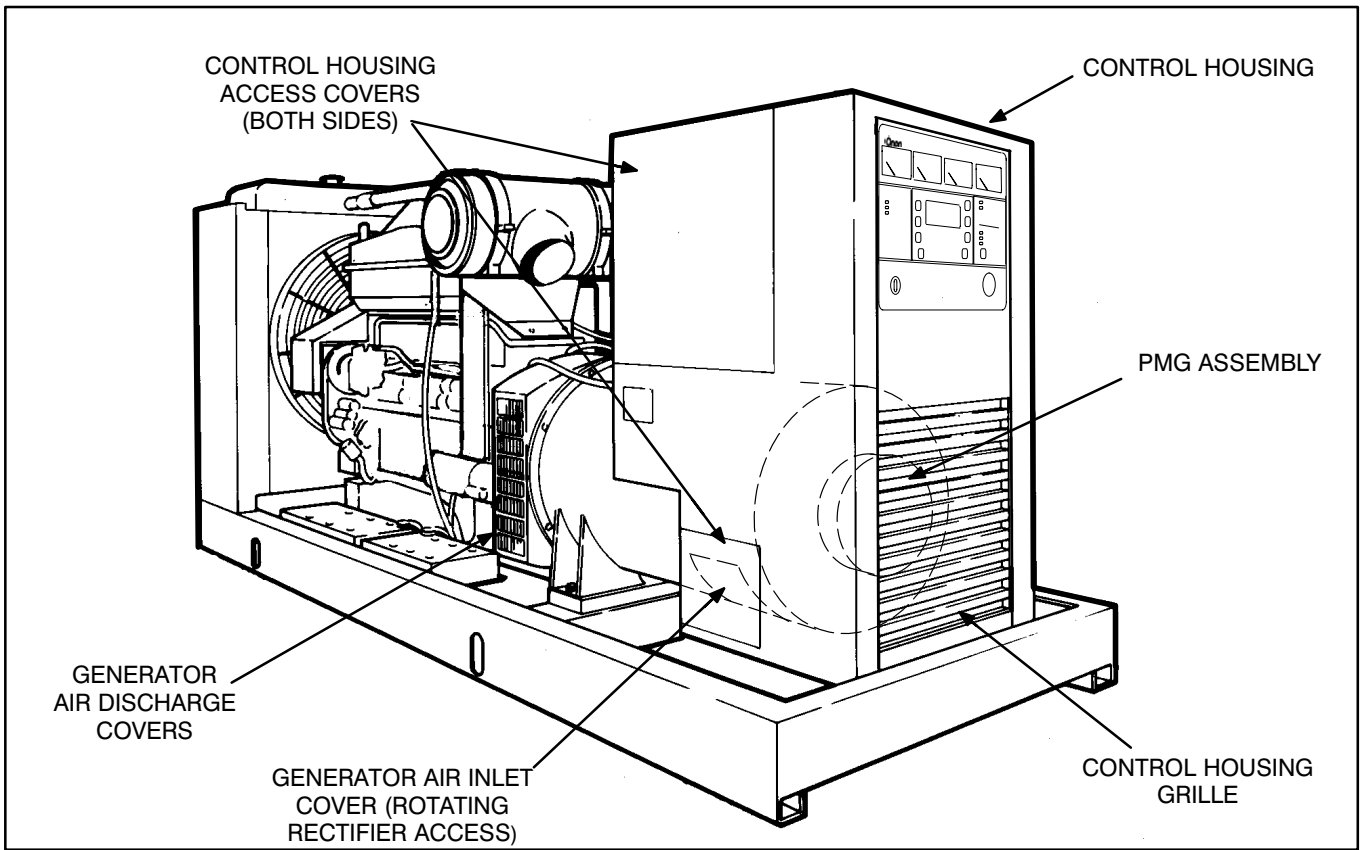
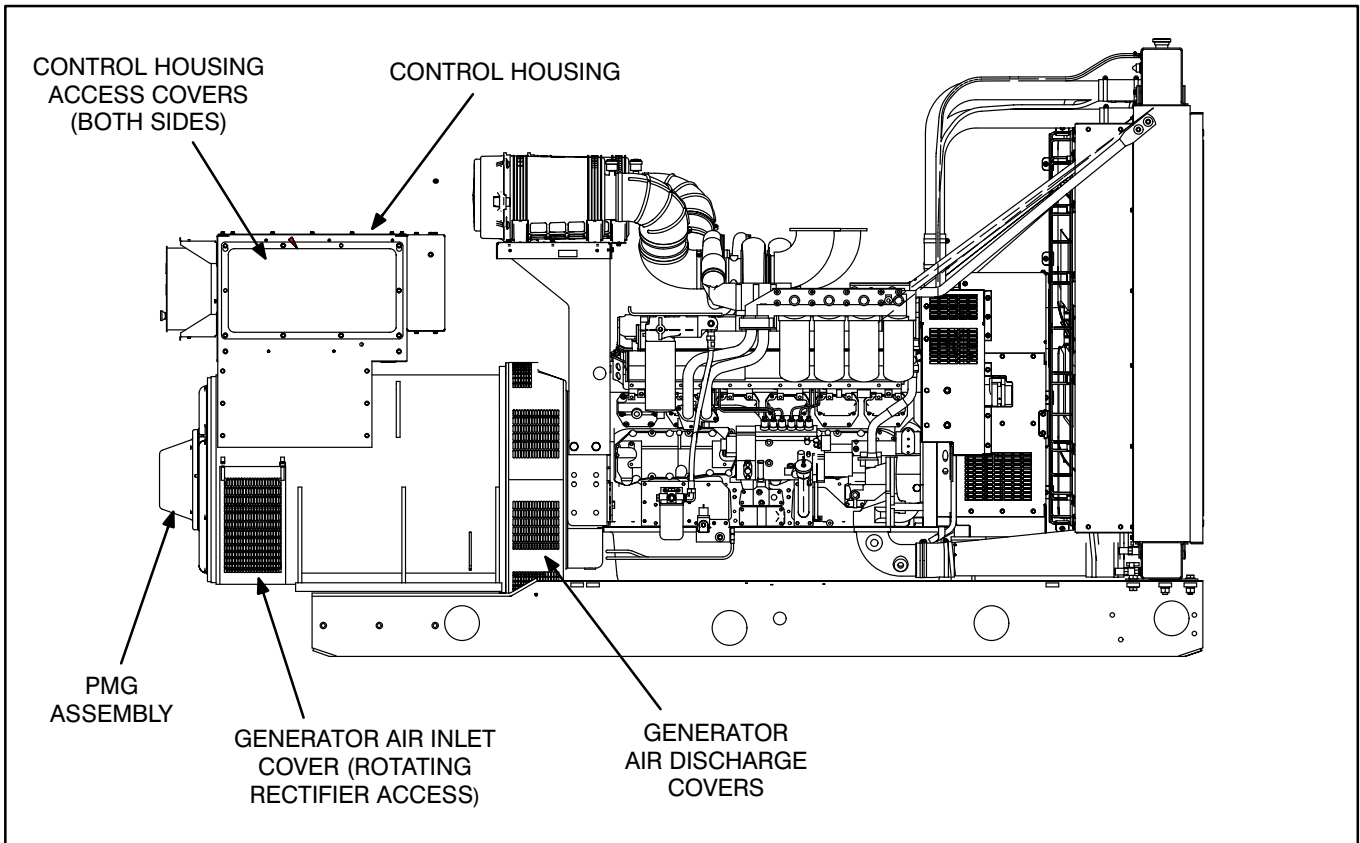

FIGURE 6-7. HC4-7 GENERATOR AND CONTROL HOUSING ASSEMBLY
FIGURE 6-8. P7 GENERATOR AND CONTROL HOUSING ASSEMBLY
Two types of generators (P7 or HC4-7) are used with these generator set models. The major difference between these two generators is the lifting eye locations on the generator and the type of control housing. The control housing for the HC4-7 generators is shown in Figure 6-7 and the control housing for the P7 generator is shown in Figure 6-8. In the following procedures, if the step only applies to a particular control housing or generator, it will be noted at the beginning of the step (e.g., *HC4-7 control housing*, *P7 generator*, etc.)
2. *HC4-7 Control Housing:* Remove the control housing grille and access covers (see Figure 6-7).
5. *HC4-7 Control Housing:* Install the control housing grille and access covers (see Figure 6-7).
2. Remove the air inlet and discharge panels and access covers from control housing and generator (see Figure 6-7 or 6-8).